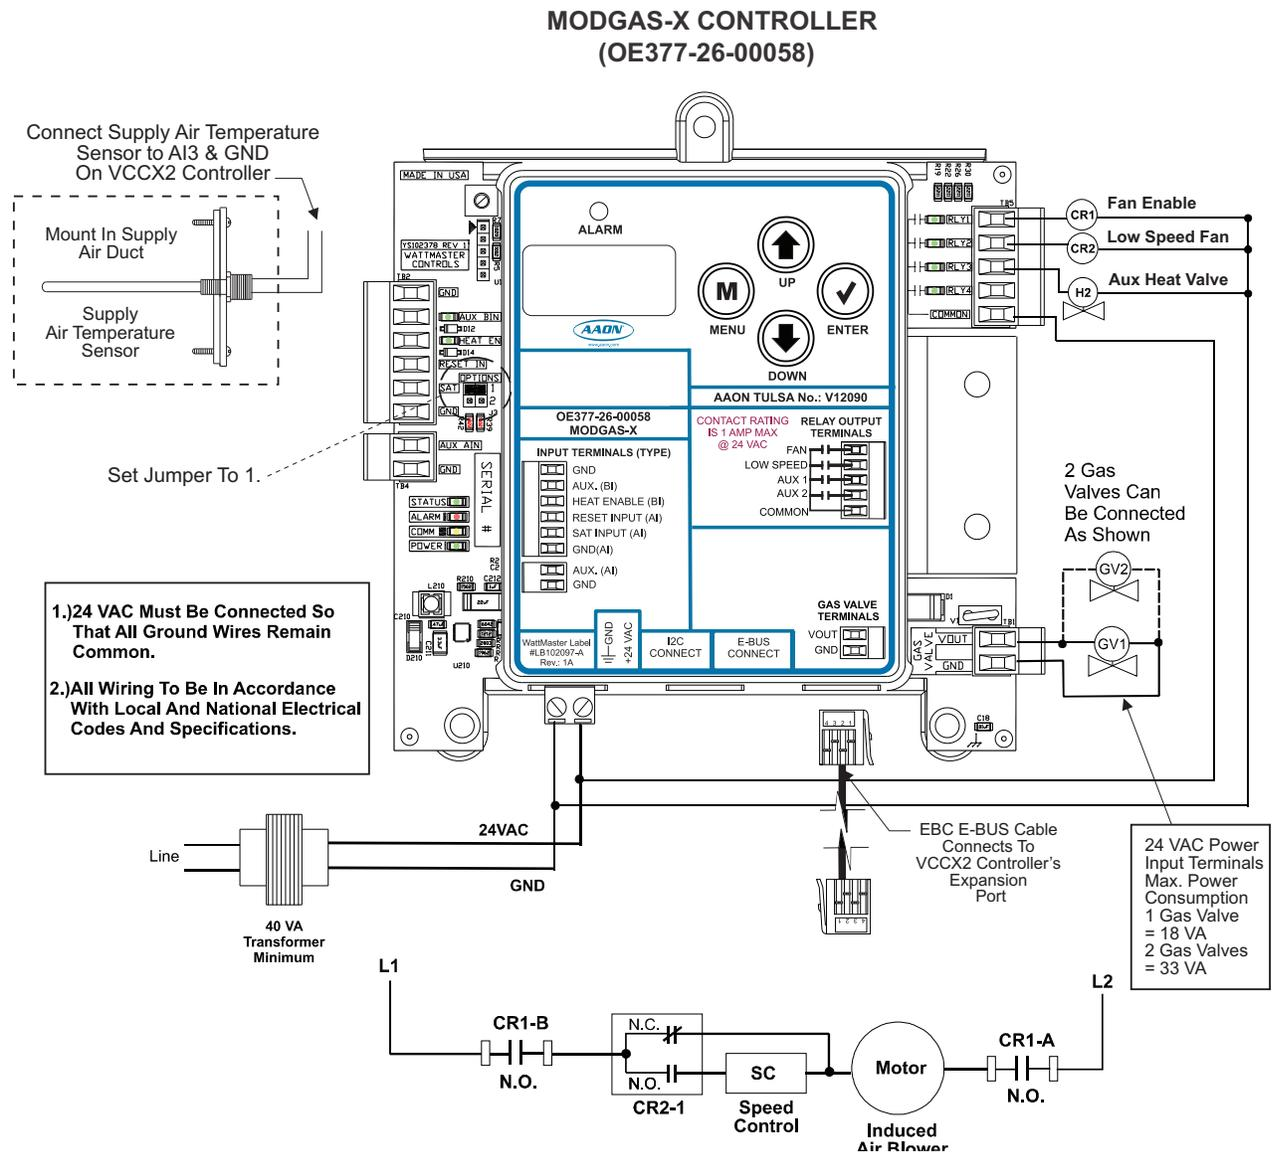

Figure 41: MODGAS-X Controller to VCCX2 Controller Wiring Diagram
The OE377-26-00058 MODGAS-X Controller (AAON Part No. V12090) is designed to modulate up to (2) gas valves to maintain a desired Discharge Air Temperature. It also controls the speed of the induced draft fan to maintain proper combustion in the heat exchanger. The MODGAS-X Controller directly connects to the VCCX2 Controller or indirectly using an E-BUS Expansion Board via an EBC E-BUS cable. See **Figure 41, below.**